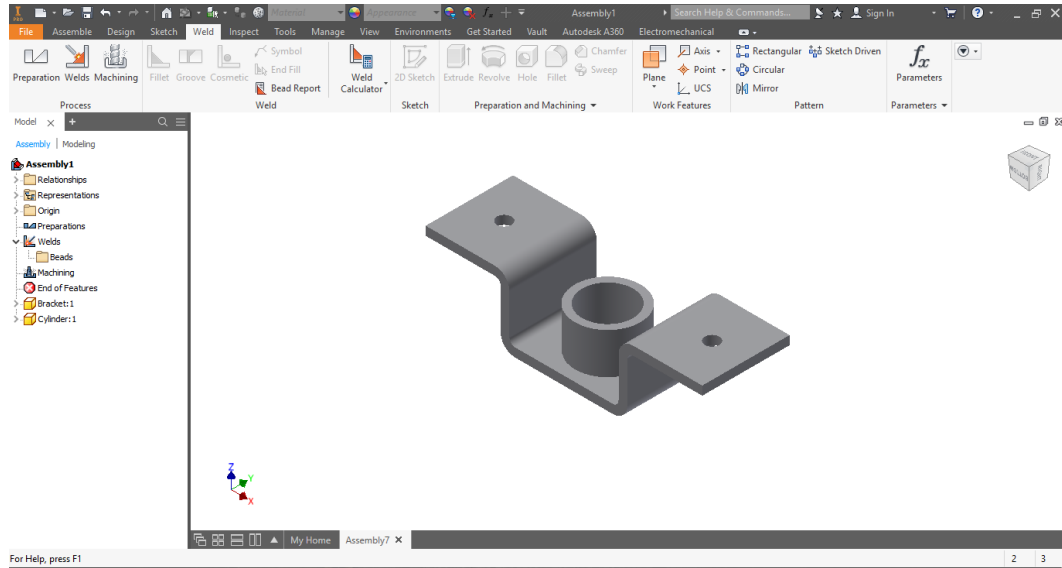

Figure 16-27 Assembly file after assembling the Bracket and the Cylinder
2. Assemble the Cylinder with the Bracket using the assembly constraints. The assembly file after assembling the components is shown in Figure 16-27.